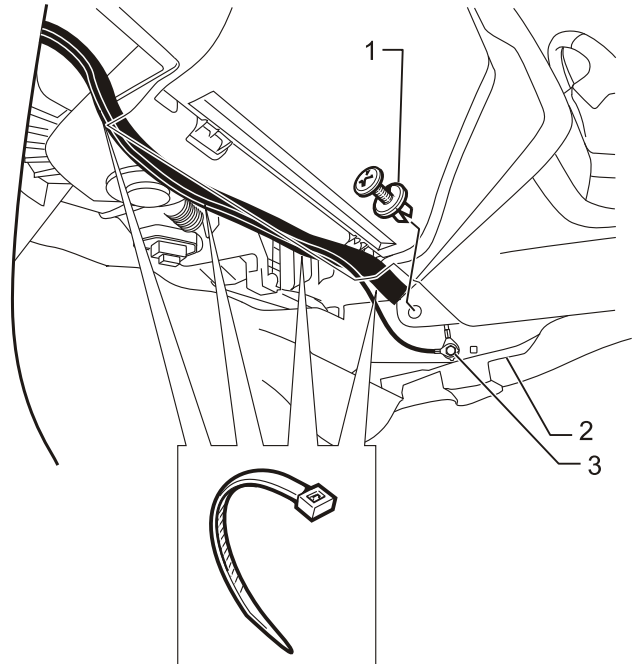

Figure 21
35. Remove the scrivet (1) fixing the lower corner of the centre console and pull the down the edge of the carpet (2) to expose the vehicle wiring earth point (3). Add the earth wire to the earth point. Refer to figure 21.